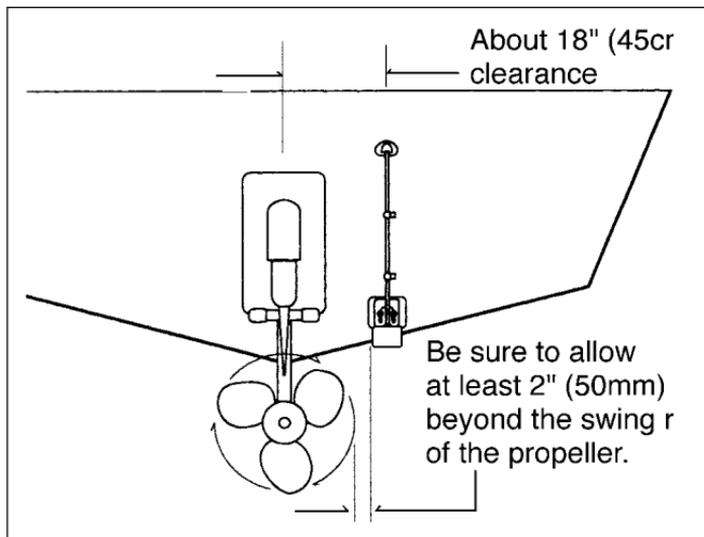

Fig. 2-3
- If your boat has one propeller (outboard or inboard-outboard), mount the transducer about 18– (455 mm) to the side of the centerline of the boat. See Fig. 2-3. Choose the side that is on the downstroke of the propeller. (This is usually the starboard side of the boat.) This will reduce any interference caused by air bubbles.